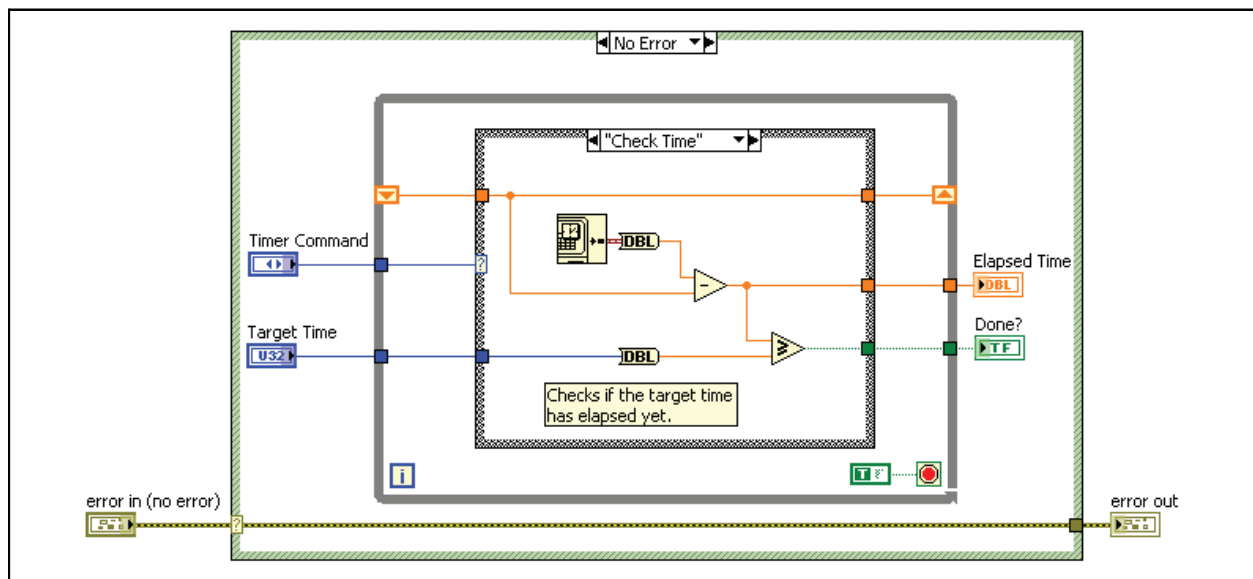

Figure 6-10. Timing Module Check Time Case
5. Modify the Check Time case to output the elapsed time after a Start command has been sent to the tlc_Timing Module VI, as shown in Figure 6-10. Use the following items: